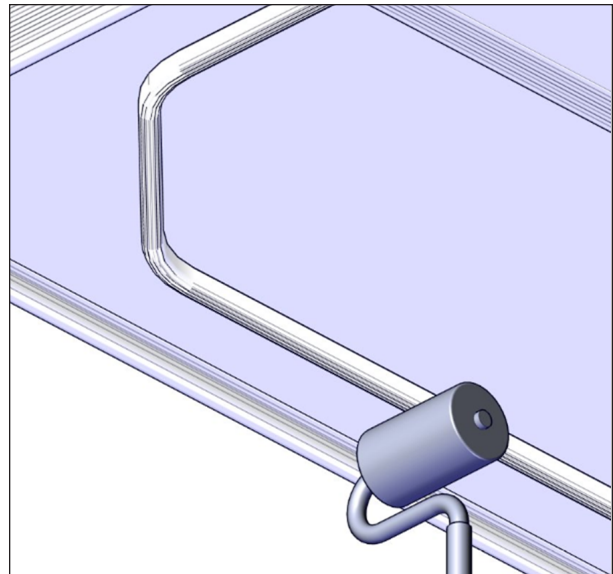

FIGURE 99: APPLY PRESSURE WITH ROLLER
13. Once satisfied that the seal is released, raise the cover 36" (91 cm) high. Apply a minimal pressure of 15 psi (103 kPa) on the seal with the roller as shown in Figure 99 to properly bond the adhesive to the underside of the cover.